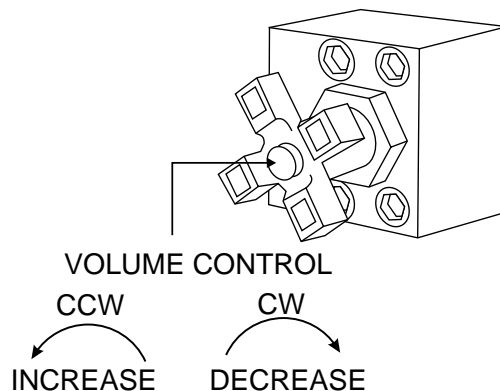

Figure 27. Volume Control Switch
2. Use the volume control (Figure 27) to set the pump volume to approximately 10 strokes per minute. Turning the volume control clockwise (CW) will decrease pump volume, and counterclockwise (CCW) will increase pump volume.
6. Rotate the Volume Control Knob (Figure 27) to the right to increase the volume to 25-30 strokes per minute. Place pump control switch in the center "**OFF**" position. Slowly discharge the concrete from the ready-mix truck into the hopper and completely fill it.